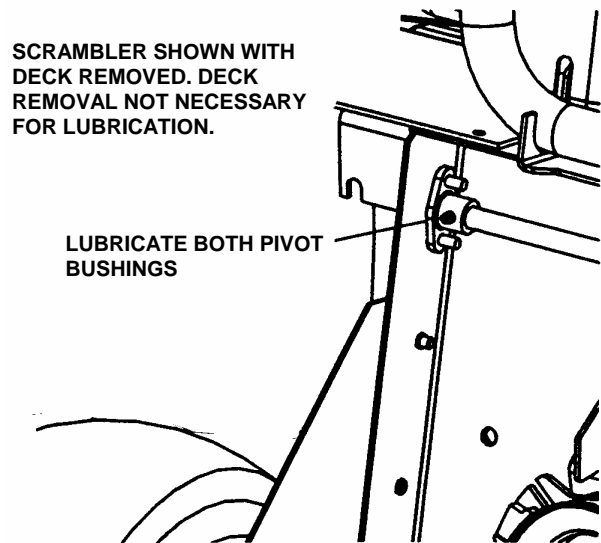

FIGURE 3.9
- d. Lubricate both pivot bushings with three shots general purpose grease from grease gun. See Figure 3.9